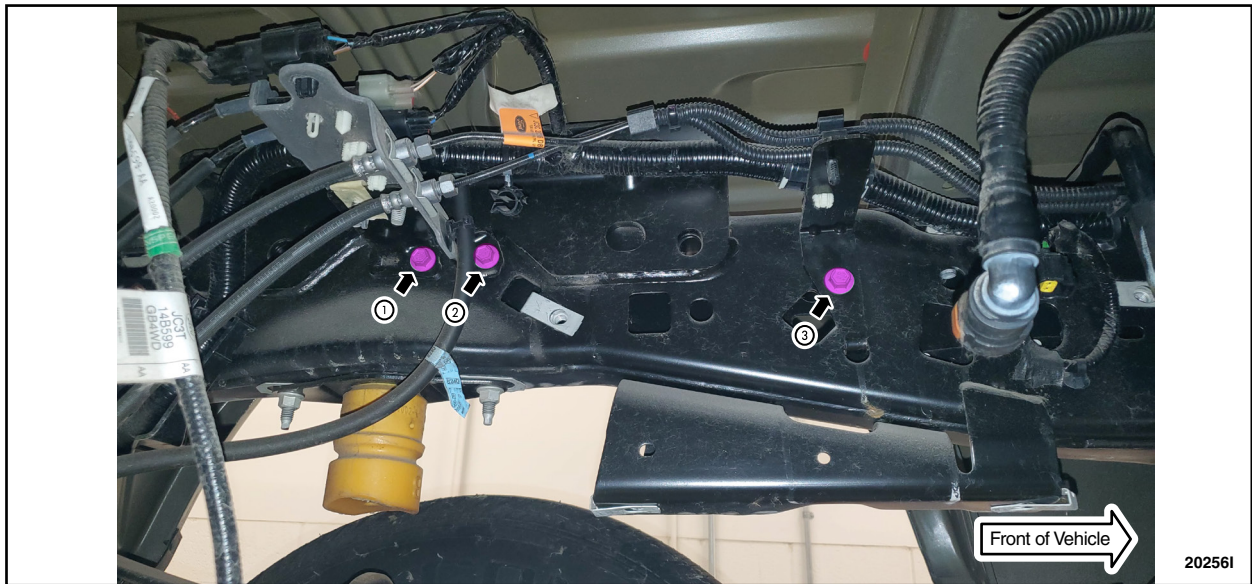

FIGURE 10
14. Remove the three bracket to frame bolts. See Figure 10.